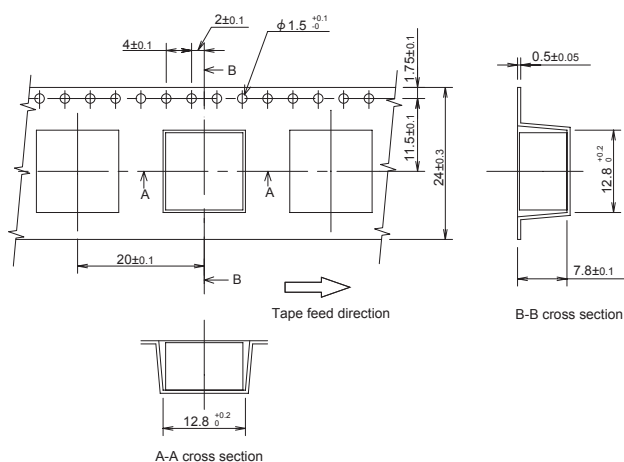

Fig.9.1 Taping dimensions of BRNS6/12
■ Please refer to a Fig.9.1 to Fig.9.3 for Package form (Reel).